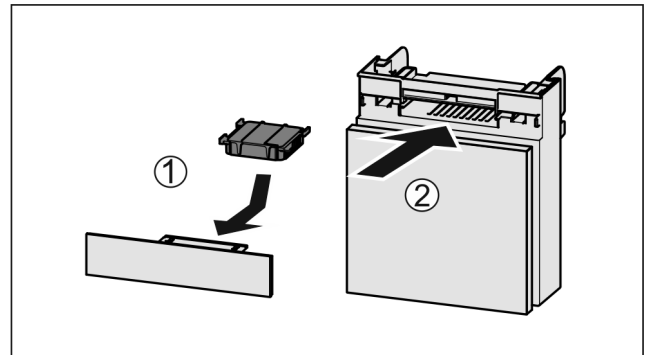

Fig. 177
- ▶ Insert the carbon filter as shown in the diagram Fig. 177 (1).
- ▶ Push the compartment in Fig. 177 (2).